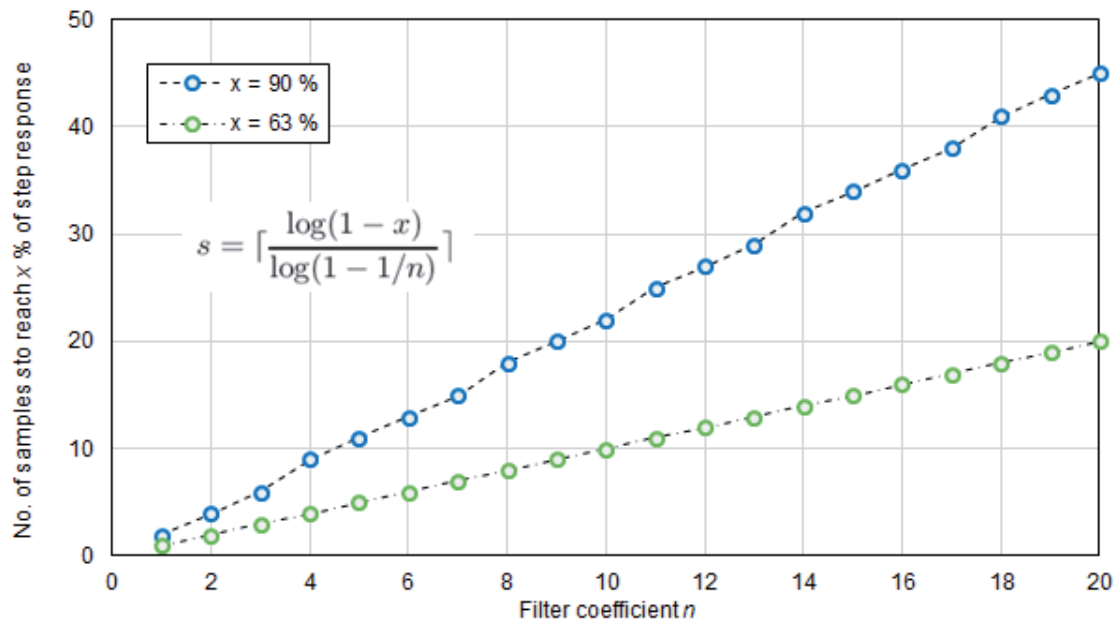

Fig. 15 Step response vs. filter coefficient
*) The EE895 features an exponential moving average filter which to a certain degree suppresses the influence of short-term CO₂ variations onto the output CO₂ data. The filter coefficient is user selectable and affects the response time of the EE895. A higher filter coefficient leads to smoother output data and to longer response time, see figure Fig. 14. Fig. 15 shows the number of samples required to reach 63% or 90% of a CO₂ step as function of the filter coefficient.